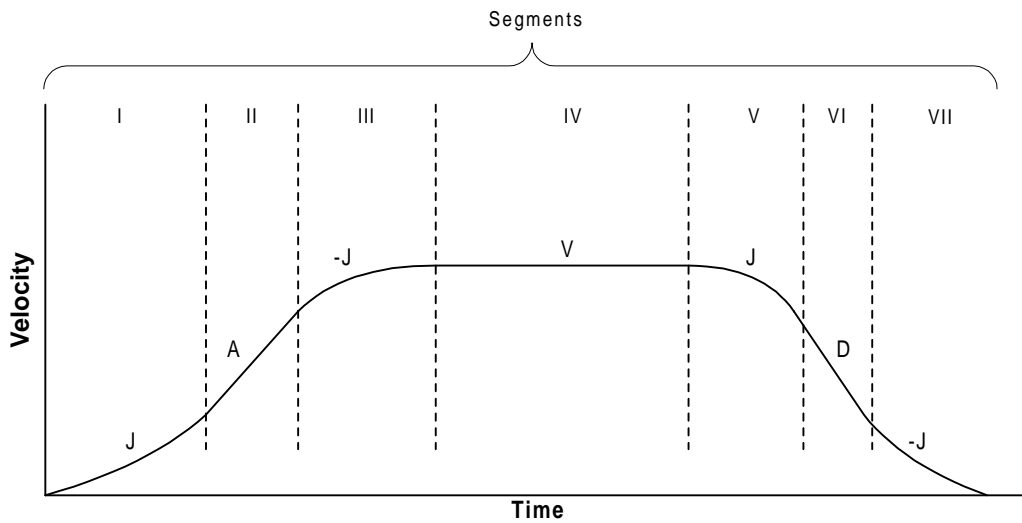
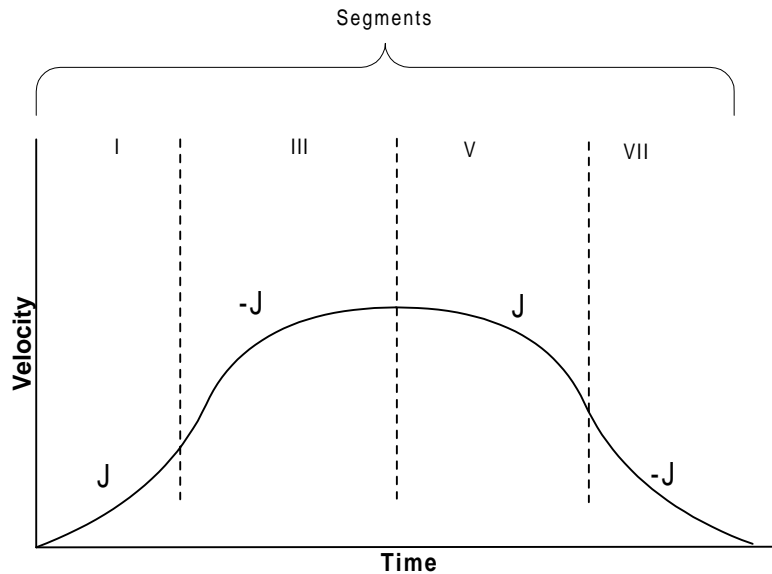

Figure 2-2. S-curve profile
Figure 2-4. S-curve with no maximum-velocity segment
Figure 2-2 shows a typical S-curve profile. In segment I, the S-curve profile drives the axis at the specified jerk (J) until the maximum acceleration (A) is reached. The axis continues to accelerate linearly (jerk = 0) through Segment II. The profile then applies the negative value of the jerk to reduce acceleration to 0 during Segment III. The axis is now at maximum velocity (V), at which it continues in motion through Segment IV. The profile will then decelerate in a manner similar to the acceleration stage, using the jerk value first to reach the maximum deceleration (A), and then to bring the axis to a halt at the destination.
An S-curve profile might not contain all of the segments shown in Figure 2-2. For example, if the maximum acceleration cannot be reached before the "halfway" point to or from the velocity, the profile would not contain a Segment II or a Segment VI. Such a profile is shown in figure2-4
Similarly, if the position is specified such that velocity is not reached, there will be no Segment IV, as shown in figure 2-4. (There may also be no Segment II or Segment VI, depending on where the profile is "truncated".)